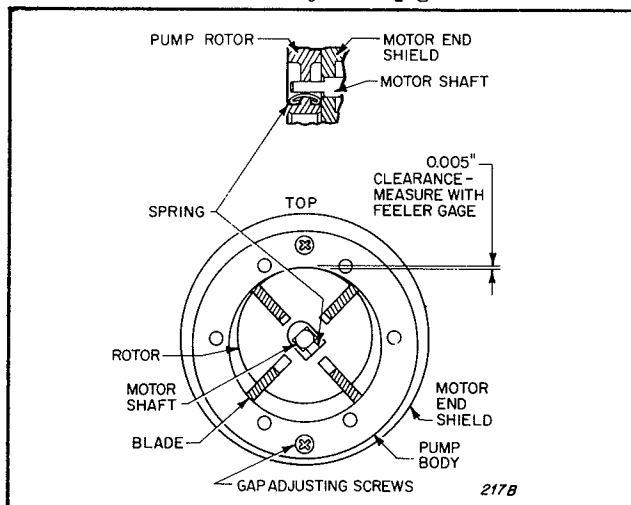

Figure 11. Checking Clearance of Air Pump Rotor
a. Install the spring in the pump rotor as shown in Figure 11, then assemble rotor on the motor shaft. Attach the pump body to the motor with the two top and bottom recessed screws which were removed to take it off.
b. Adjust the pump body to provide 0.003 to 0.005 inch clearance at the point shown in Figure 11. Measure the clearance with a feeler gage. Spin the motor by hand to be sure the rotor does not rub on the pump body. The proper clearance must be maintained. Be sure the screws are tight after adjusting the clearance.